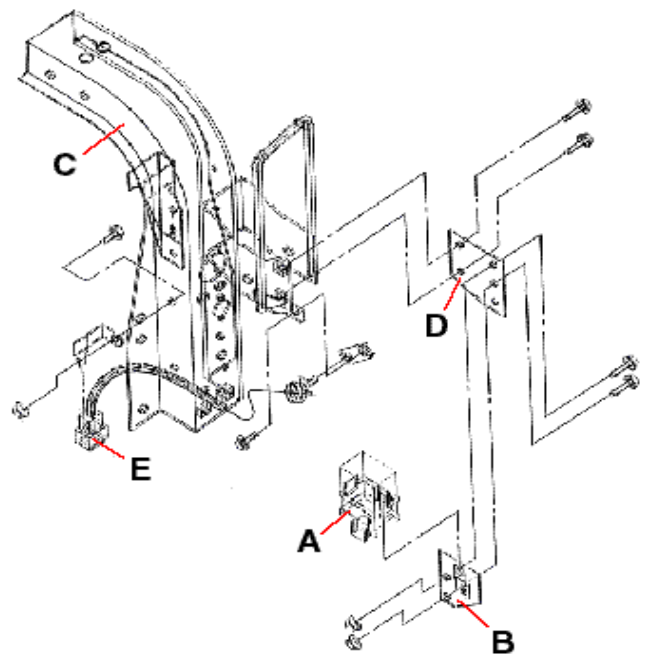

FIGURE 8b UD2600/UD3000
8b. As shown in Figure 8b, attach the relay bracket (B) to the extension bracket (D) provided for UD2600/UD3000 using the two (2) bolts and nuts provided. Use the upper two holes leaving the bottom (third) hole in the extension bracket open. Attach the extension bracket (D) to the rear cab support using the bolts provided.